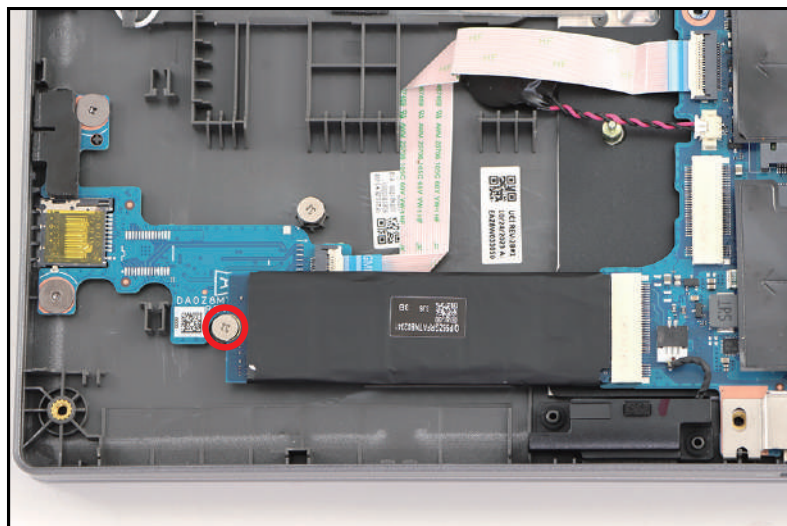

Figure 3-19. SSD Module Removal
2. Remove one (1) screw securing the SSD module (Figure 3-19).